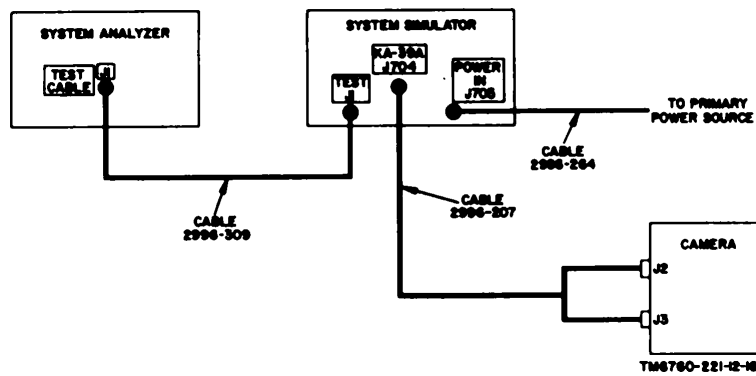

Figure 16. Connection diagram for testing complete camera.
a. *Connections and Initial Control Settings (fig. 16).*
- (1) Connect cable 2996-207 to connector J704 on the system simulator and to connectors J2 and J3 on the camera.
- (2) Connect cable 2996-309 to connector J1 on the system simulator and connector J1 on the system analyzer.
- (4) Connect cable 2996-264 (fig. 16) to connector J705 on the system simulator and to the primary power source (para 23).